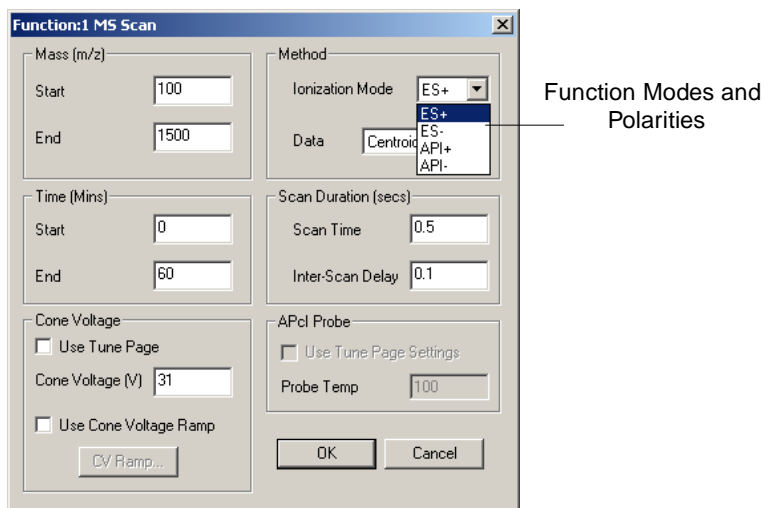

Figure A-10 Function:*n* MS Scan Dialog Box
7. Click . The Function:*n* MS Scan dialog box (where *n* = the function list number) appears (Figure A-10).